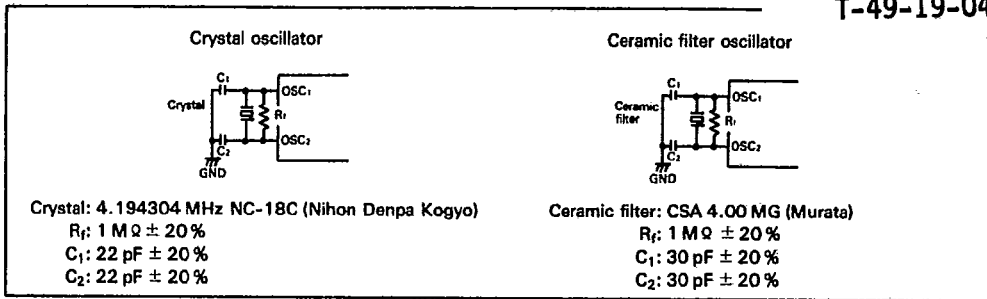

Figure 30. Oscillator Circuit
1. Oscillator stabilization time is the time until the oscillator stabilizes after V_{CC} reaches its minimum allowable voltage after power-on, or after RESET goes high. At power-on or STOP mode release, RESET must be kept high for at least t_{RC}. Since t_{RC} depends on the crystal or ceramic filter's circuit constant and stray capacitance, please get the manufacturer's advice when designing the RESET circuit. (See figure 30)